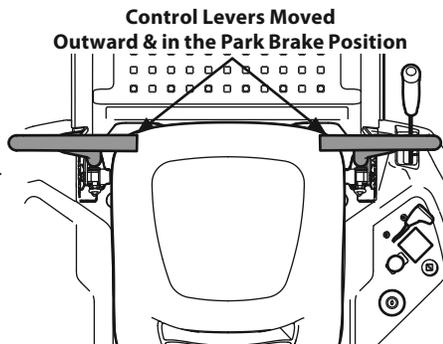

Figure 18
1. Operator should be sitting in the tractor seat with the lapbar drive control levers fully out and in the park position. See Figure 18. Refer to Practice Operation for further instructions.